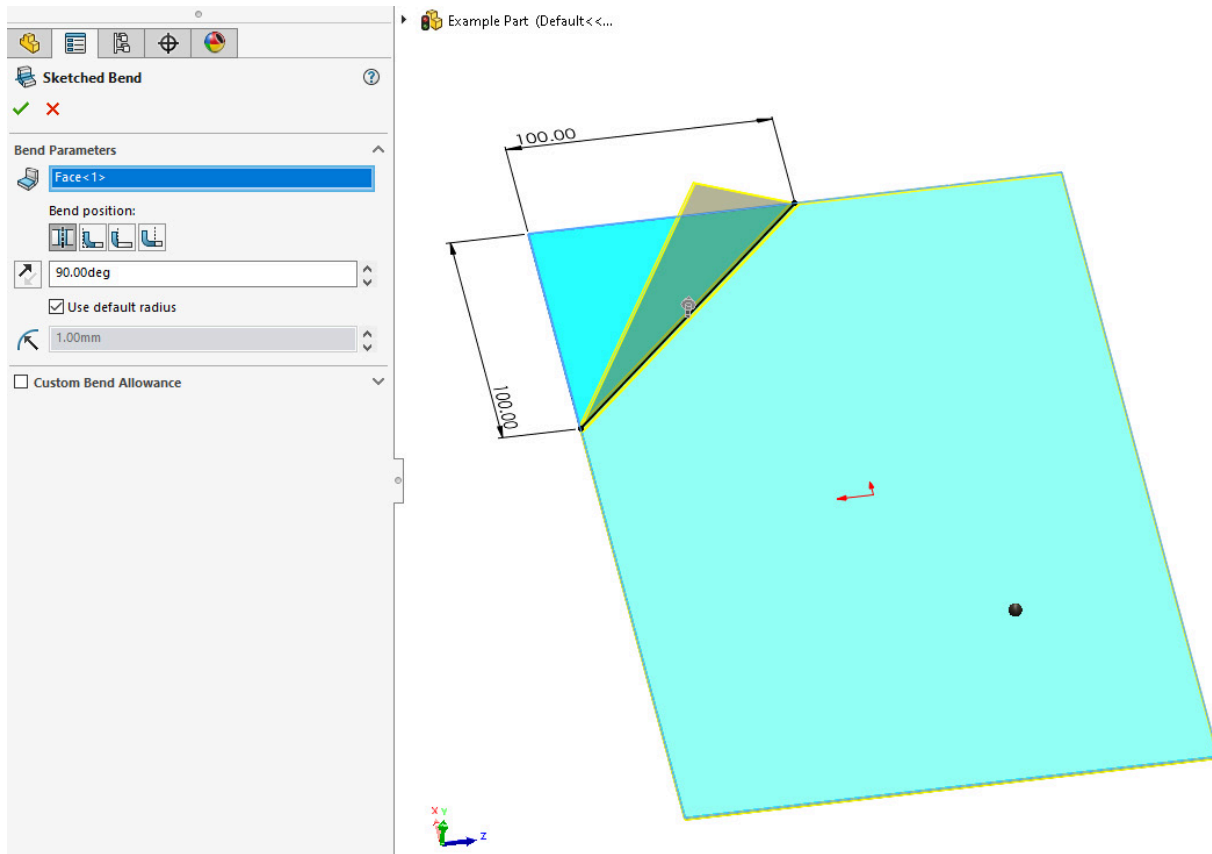

Figure 3.19: Selecting the large region will then bend the smaller region along the sketched line
6. Select the larger region of the **Base Flange** face by left-clicking. A yellow preview should appear, showing the triangular corner of the **Base Flange** bent up along the sketched line, as illustrated in *Figure 3.19*.